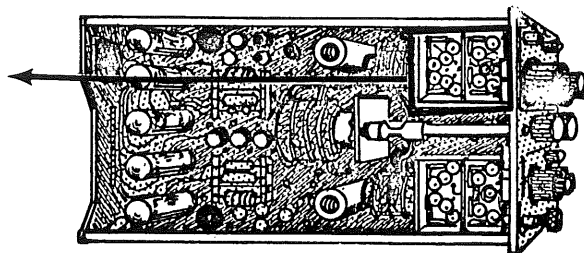

Figure 5-53
- Set the VOLTS/DIV control to .02 and adjust C112, see Figure 5-53, for optimum flat-topped waveform. Readjust 105 for 4 cm of vertical deflection.